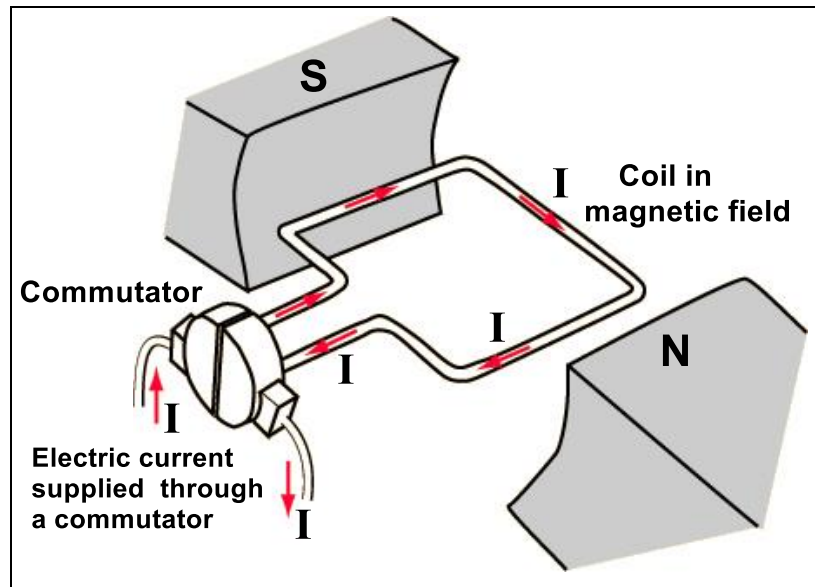

Fig. 1.1-2 Principle of Operation of DC Motor
The direct current (DC) motor is one of the first machines devised to convert electrical power into mechanical power. Permanent magnet (PM) direct current convert electrical energy into mechanical energy through the interaction of two magnetic fields. One field is produced by a permanent magnet, the other field is produced by an electrical current flowing in the motor windings (Fig. 1.1-2). These two fields result in a torque which tends to rotate the rotor.